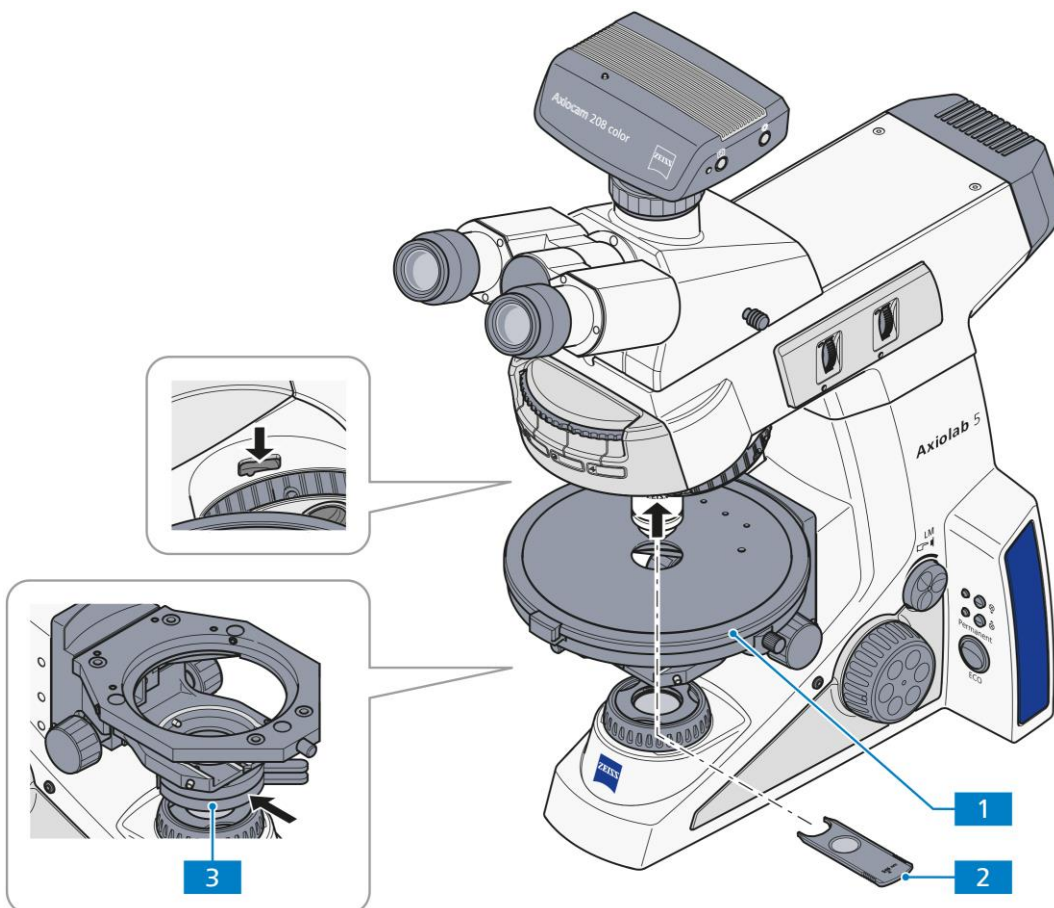

Fig. 4-7 Components for transmitted light polarization
(3) Configuring the microscope
- Configure the microscope as for transmitted light brightfield microscopy using the KÖHLER method (see section 4.2.1 (3)).
- Center the Pol rotary stage (Fig. 4-7/1) (see section 3.1.7.5) and objectives (see section 3.1.7.6).
- Swing the polarizer (Fig. 4-7/3) into the beam path and position it to 0° if you are using a rotatable polarizer.
- Insert the analyzer slider (Fig. 4-7/2) into the slot for compensators (if the tube does not already have an analyzer). The field of view will appear dark due to the crossed polarizers. With screw-on analyzers in the intermediate plate for tubes, care must be taken to ensure that they are aligned with polarizer D (i.e. crossed position).
(2) Instrumentation
- Pol rotary stage (Fig. 4-7/1)
- Adjust the microscope as described in section 4.2.1 (3) for transmitted light brightfield microscopy. Make sure the inter-pupillary distance is adjusted correctly on the binocular tube (see section 4.1.1).
- Center the Pol rotary stage (Fig. 4-7/1) and objectives (see sections 3.1.7.5 and 3.1.7.6).
- Swivel the polarizer (Fig. 4-7/3) into the beam path and, if it is rotatable, position it at 0°.
- Insert the analyzer slider (Fig. 4-7/2) into the slot for compensators or in the intermediate plate (if tube does not already have an analyzer). The field of view will appear dark due to the crossed polarizers. If not, align the analyzer in the tube or the intermediate plate.